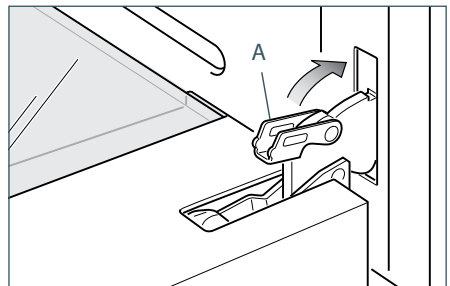

Fig.61d
- 4 Unlock the oven door by opening it completely and closing the lever "A" on the left and right hinges (Fig. 61d).